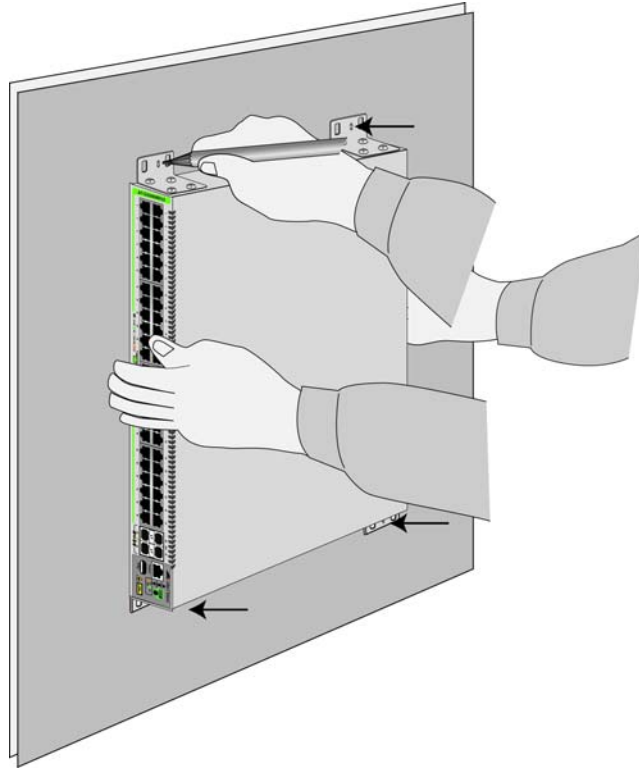

Figure 28. Marking the Locations of the Bracket Holes on a Concrete Wall
3. Have another people hold the switch on the concrete wall at the selected location for the device while you use a pencil or pen to mark the wall with the locations of the four screw holes in the four brackets (one screw per bracket). Refer to Figure 28 on page 67.